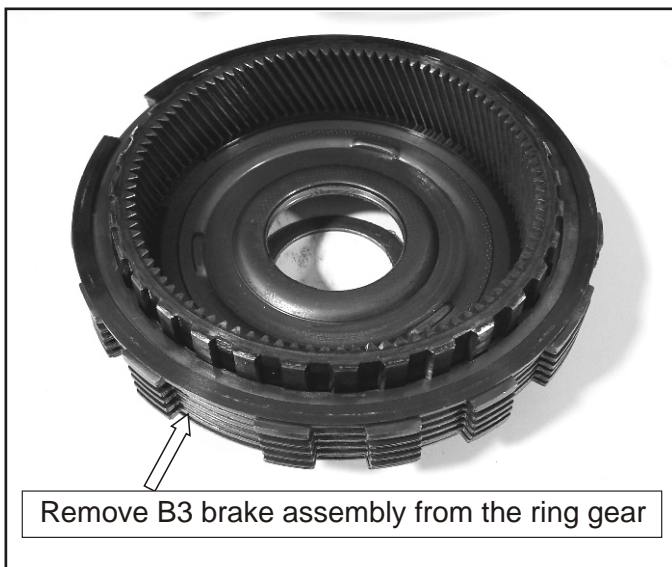

Figure 80
29. Place the ring gear on the bench and remove the B3 brake frictions and steels up off of the ring gear as shown in Figure 80.